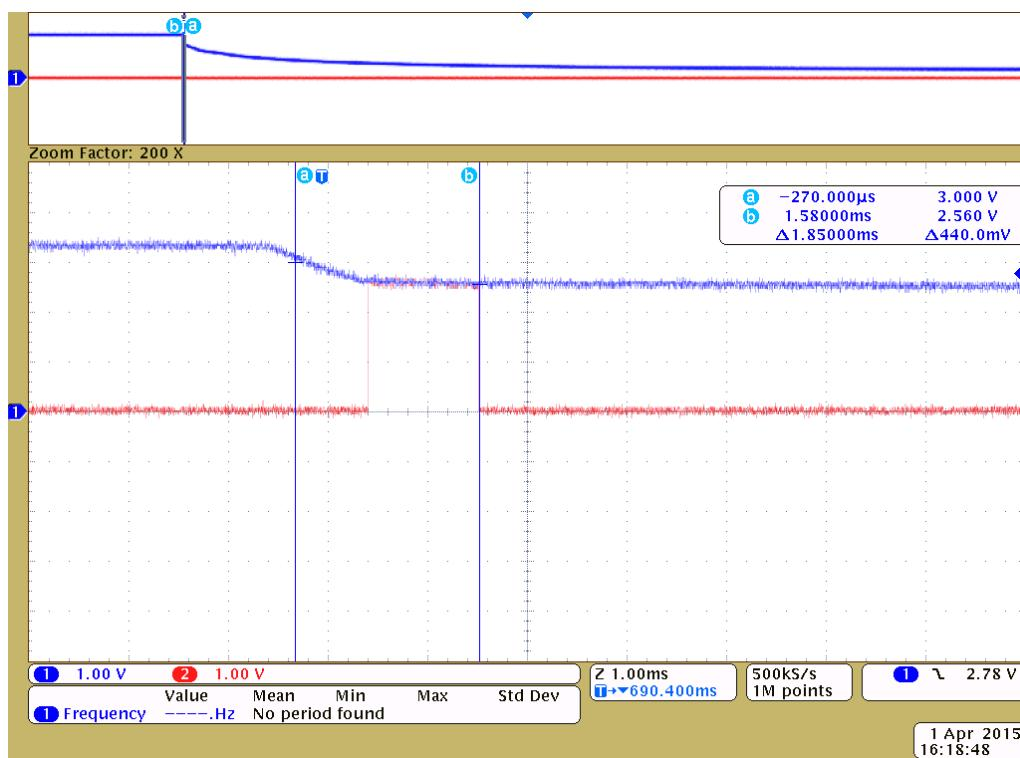
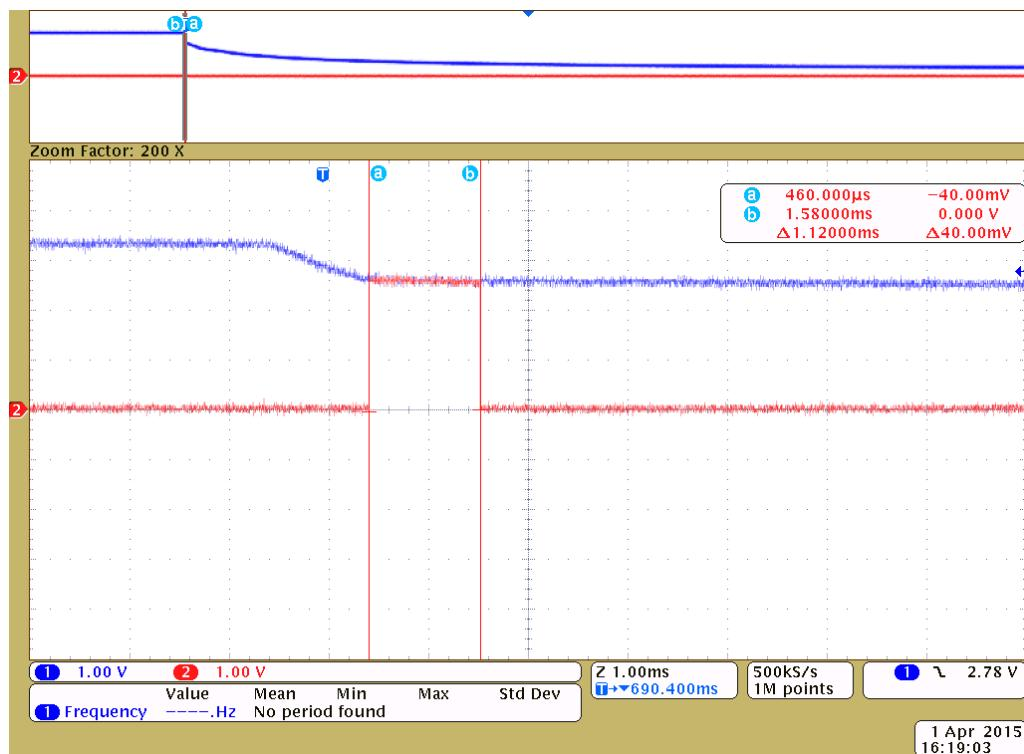

Figure 3. VCC Drop When Micro-USB is Disconnected
Figure 4. Ctpl_enterShutdown() Execution Time at 1 MHz
Figure 3 shows the VCC voltage drop when the Micro-USB of the LaunchPad™ is disconnected and `ctpl_enterShutdown()` is executed. **Figure 3** shows that the device executes the shutdown routine when the VCC reaches 2.6 V. **Figure 4** also shows the execution time of `ctpl_enterShutdown()` at a CPU operating frequency of 1 MHz or approximately 1.12 ms.
Figure 4 illustrates that the application enters shutdown mode (LPM4.5) at approximately 2.56 V; a significant margin before the device enters brownout reset (approximately 1.8 V). For more information, see *MSP430FR698x(1), MSP430FR598x(1) Mixed-Signal Microcontrollers (SLAS789)*.